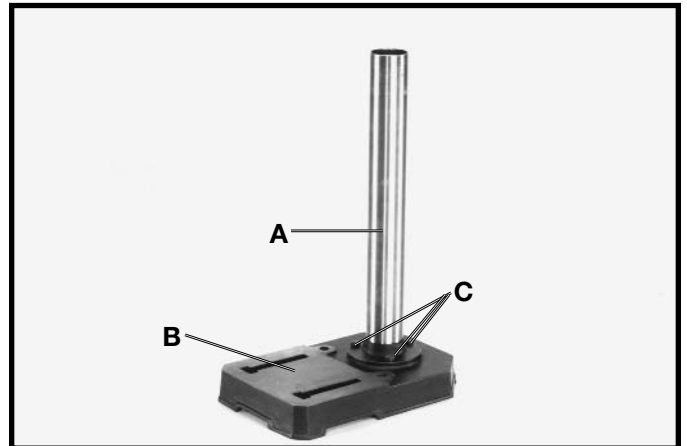

Fig. 4
1. Assemble the column (A) Fig. 4, to drill press base (B) as shown, using the three M8x1.25x20mm hex head cap screws (C).